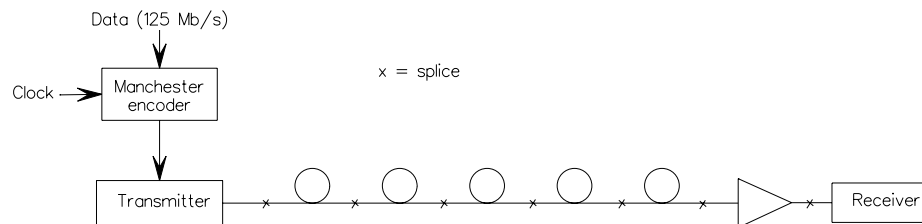

Figure 1: Fiber link for Problem 2.
2. Consider the fiber link shown in Fig. 1 operating at 1550 nm. Each splice has a loss of 0.5 dB. Each segment (loop) of fiber is 22 km long and the fiber loss is 0.25 dB/km at the operating wavelength. The power in the fiber at the transmitter is 15 μ W. The amplifier parameters are given below. All pigtail fiber losses are negligible